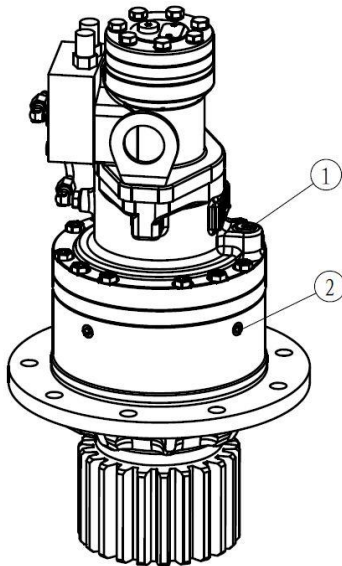

Figure 1-8 Slewing reducer
- Remove the plug 2 on the reducer side and check the oil level, as shown in Figure 1-8.